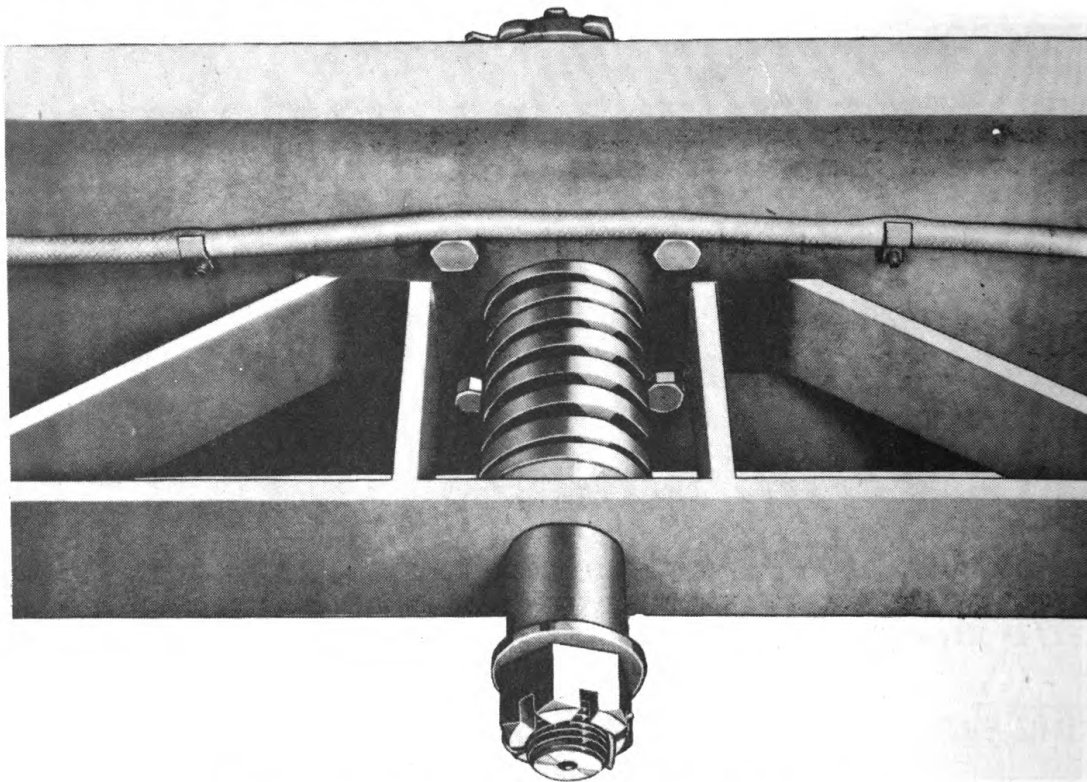

Figure 47—Pintle Hook, Rear View, Platform Removed
1. Remove the cotter pin at the end of the hook shaft under the trailer platform and turn off the castellated nut. (See figure 47.)